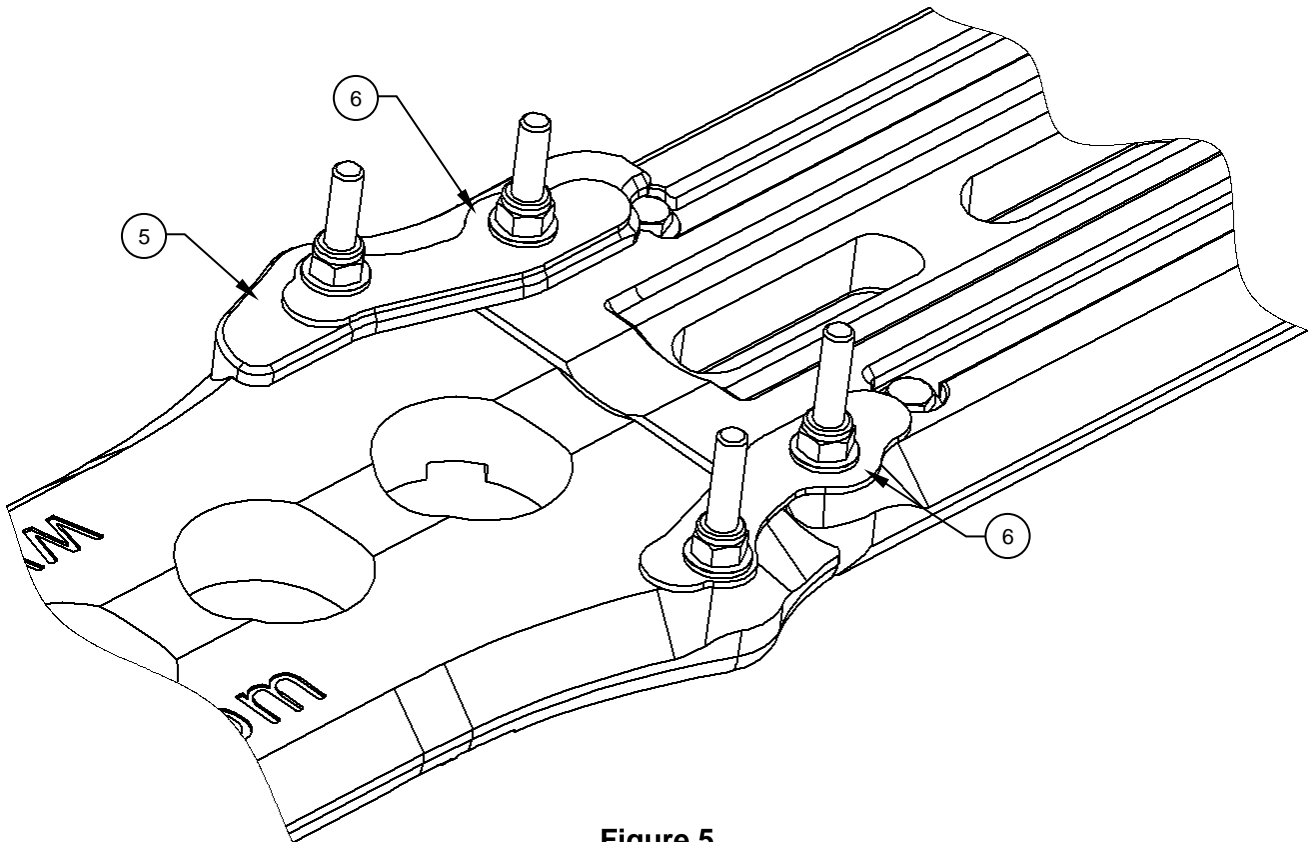

Figure 5
3. On the OUTBD side install 1x Splice, Detail (Item 5), on the two OUTBD carriage bolts, and 1x Connector, Detail, (Item 6), on the AFT end of the Traction Paw, Assy & FWD end of the Bear Paw, Assy, Kit, (Item 1). See Figure 5.
4. On the INBD side install 1x Connector, Detail, (Item 6), on the AFT end of the Traction Paw, Assy & FWD end of the Bear Paw, Assy, Kit, (Item 1). See Figure 5.